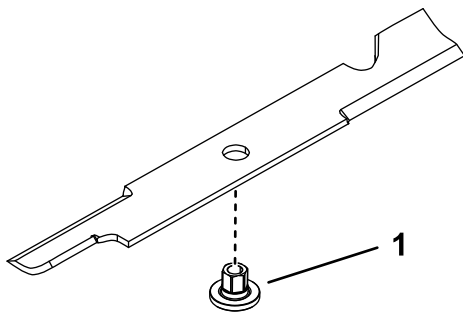

Figure 97
1. Install the bushing through the blade with the bushing flange on the bottom (grass) side of the blade (Figure 97).